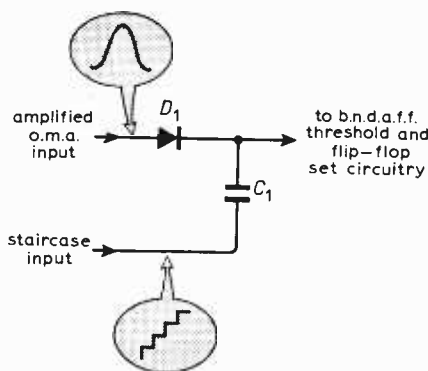

Fig. 9. Method of setting flip flops of 'best null detector and flip flop' unit (b.n.d.a.f.f.).
**Setting the b.n.d.a.f.f.** Fig. 9 shows the method of setting the b.n.d.a.f.f. flip flop, where the output is the sum of the o.m.a. peak plus the staircase input. Initially  $C_1$  is discharged, hence when the associated o.m.a. output rises,  $D_1$  is forward biased and  $C_1$  begins to charge. When the o.m.a. output has passed its peak and is falling away  $D_1$  is reverse biased, causing the peak value of the associated o.m.a. voltage to be stored on capacitor  $C_1$ . The peak o.m.a. signal primes the staircase generator which is triggered after a delay and this 'pumps up' the staircase input terminal, causing the output to rise in steps.